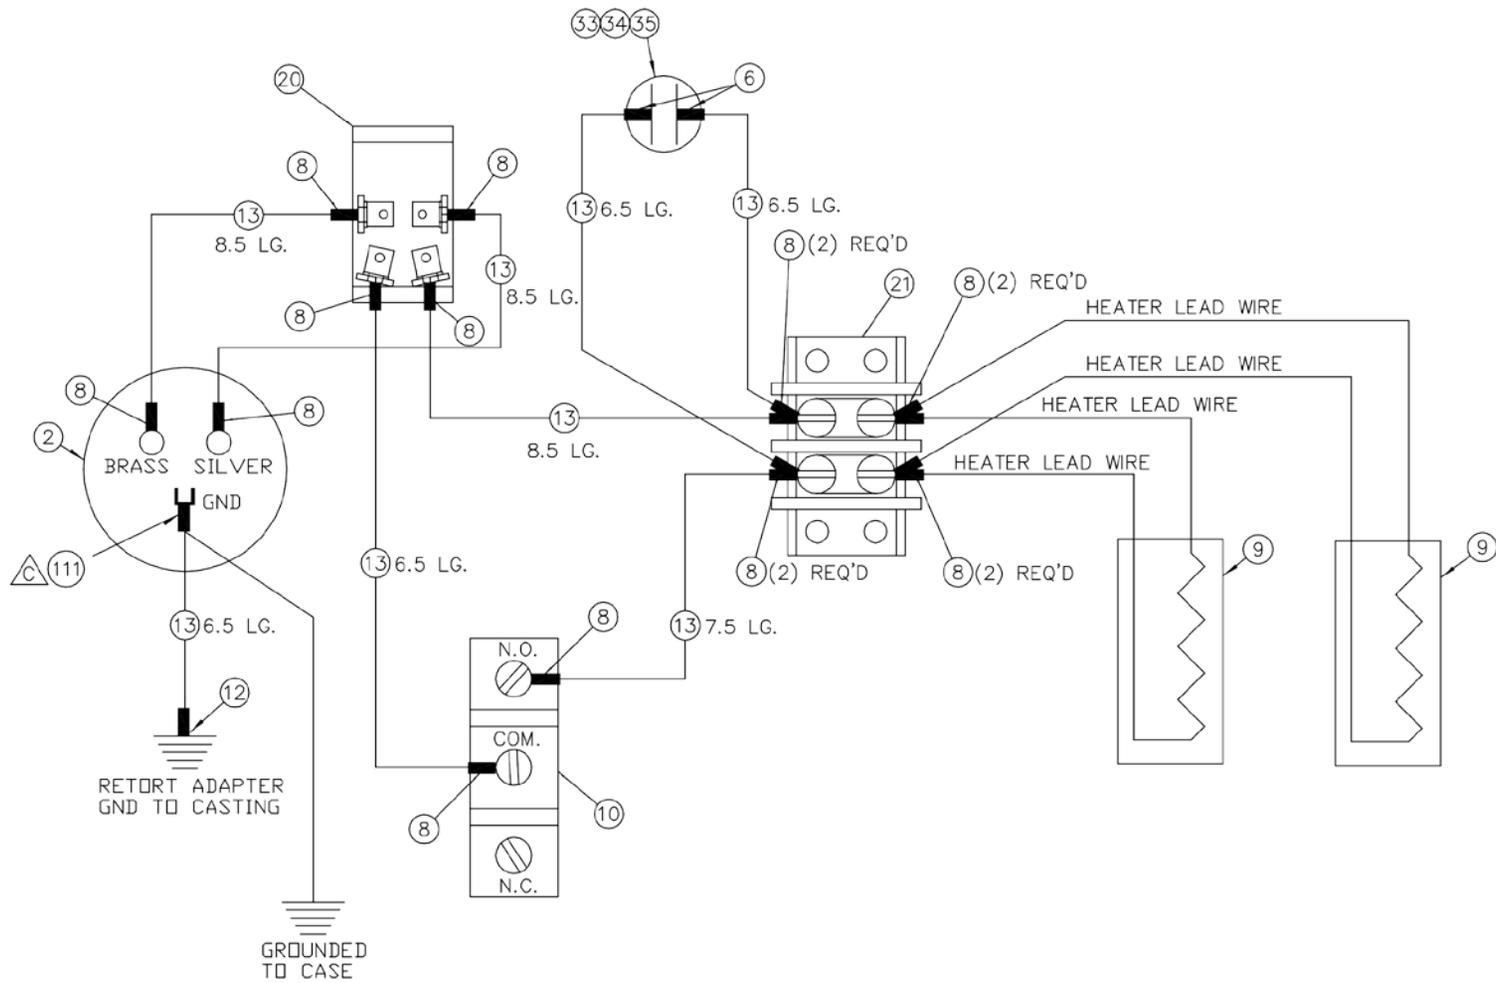

Figure 7-2 Retort Wiring, 115V
3. Mount new switch in panel, and replace wires and capacitor (if used) on terminals. Refer to retort wiring diagrams (Figure 7-2 or 7-3).